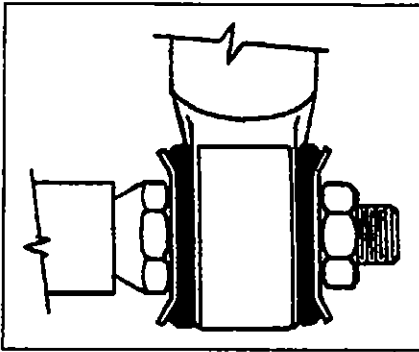

Figure 6
- Place the inner washers (with washer convex side facing the shock absorber rubber bushing) on each shock absorber pin (see fig. 6).